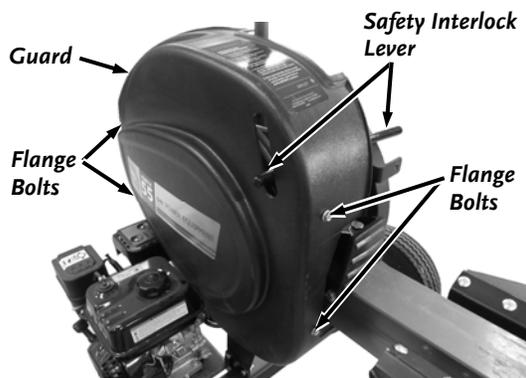

Figure 12
2. Position the right side Guard half onto the Splitter and secure with four Flange Bolts using a 9/16" Wrench (**Figure 12**).